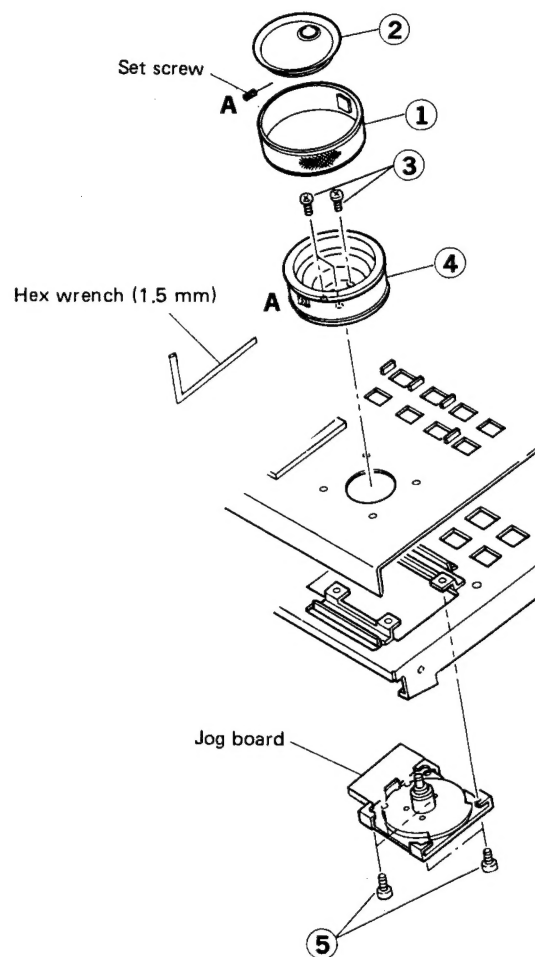

Fig. 2 Search/jog knobs and control assembly
2. Remove tire ①. Refer to Fig. 2.
3. Insert a metric hex wrench (1.5 mm) into hole A and loosen the setscrew. Remove the jog knob ②.
4. Take out 3 screws ③ and remove the search knob ④.
5. Take out 4 screws ⑤ and remove the search/jog control assembly.
1. When inserting the screws ⑤ of Fig. 2, tighten to the degree the structure does not distort (3 to 4 kg·cm torque). After tightening, apply screw sealant to screw hole.